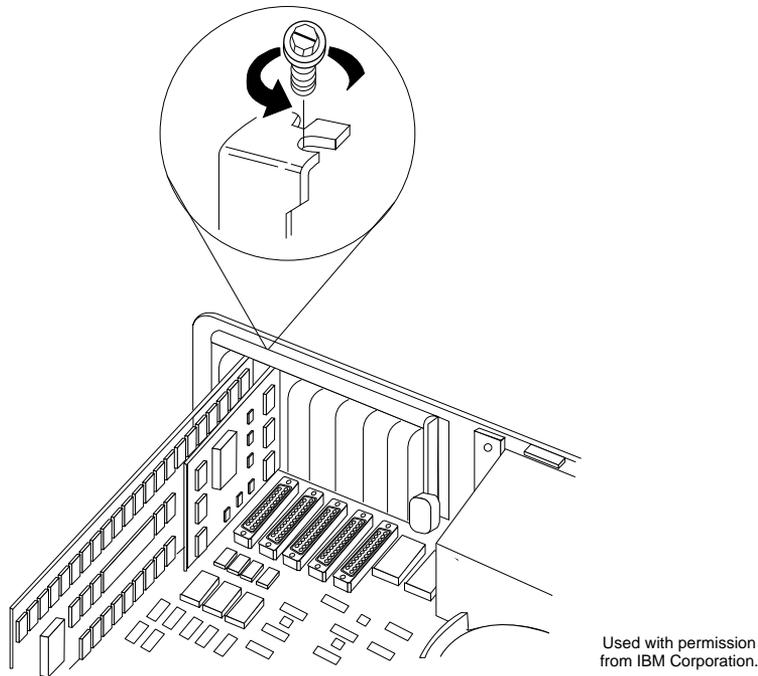

FIG. 3.2 Remove the screw that holds the adapter in place.
2. Remove the screw that holds the adapter in place (see Figure 3.2).